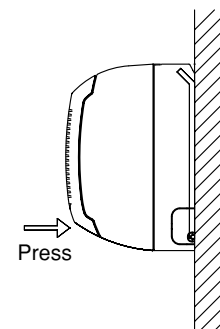

Fig. 3-74
2. Press on the air outlet to hold it in place, and press the lower part of the indoor unit until a "click" sound is heard and the indoor unit is securely fastened to the installation tabs on the lower side of the rear panel. (Fig. 3-74)